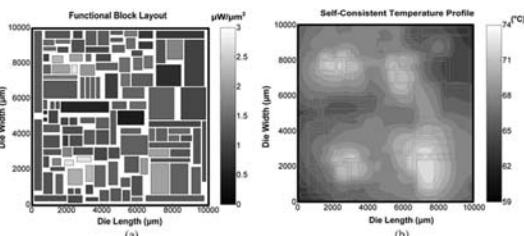

Figure 4. Block Diagram and the Topical Temperature Measurement of a 10 x 10 mm Test Chip, respectively.12
To facilitate this work, Lasertec placed a 300mm TSV infrared (IR) etch metrology tool (**Figure 4**) in SEMATECH's 3D R&D center, providing advanced measurement capabilities that have enabled accurate, repeatable TSV depth measurements over a range of TSV dimensions (**Figure 5**).
Figure 4. Lasertec's WASVI series TSV300-IR provides advanced measurement capabilities that have enabled accurate, repeatable TSV depth measurements over a range of TSV dimensions